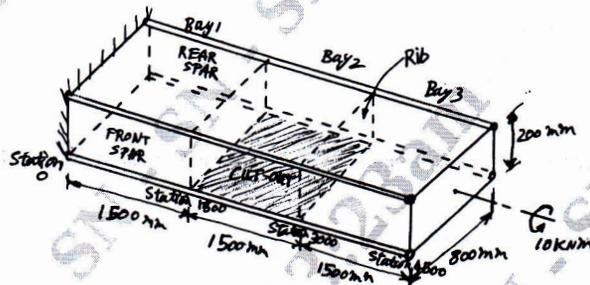

Fig.Q8
- 8 The structural portion of a wing consists of a three-bay rectangular section box which may be assumed to be firmly fixed at all points around its periphery. The wing is having a cut-out on the under surface of the central bay and is subjected to a torque of 10 kNm at its tip as shown in Fig.Q8. Calculate the shear flows in the skin panels, spar webs, loads in the corner flanges and the forces in the ribs on each side of cut-out.